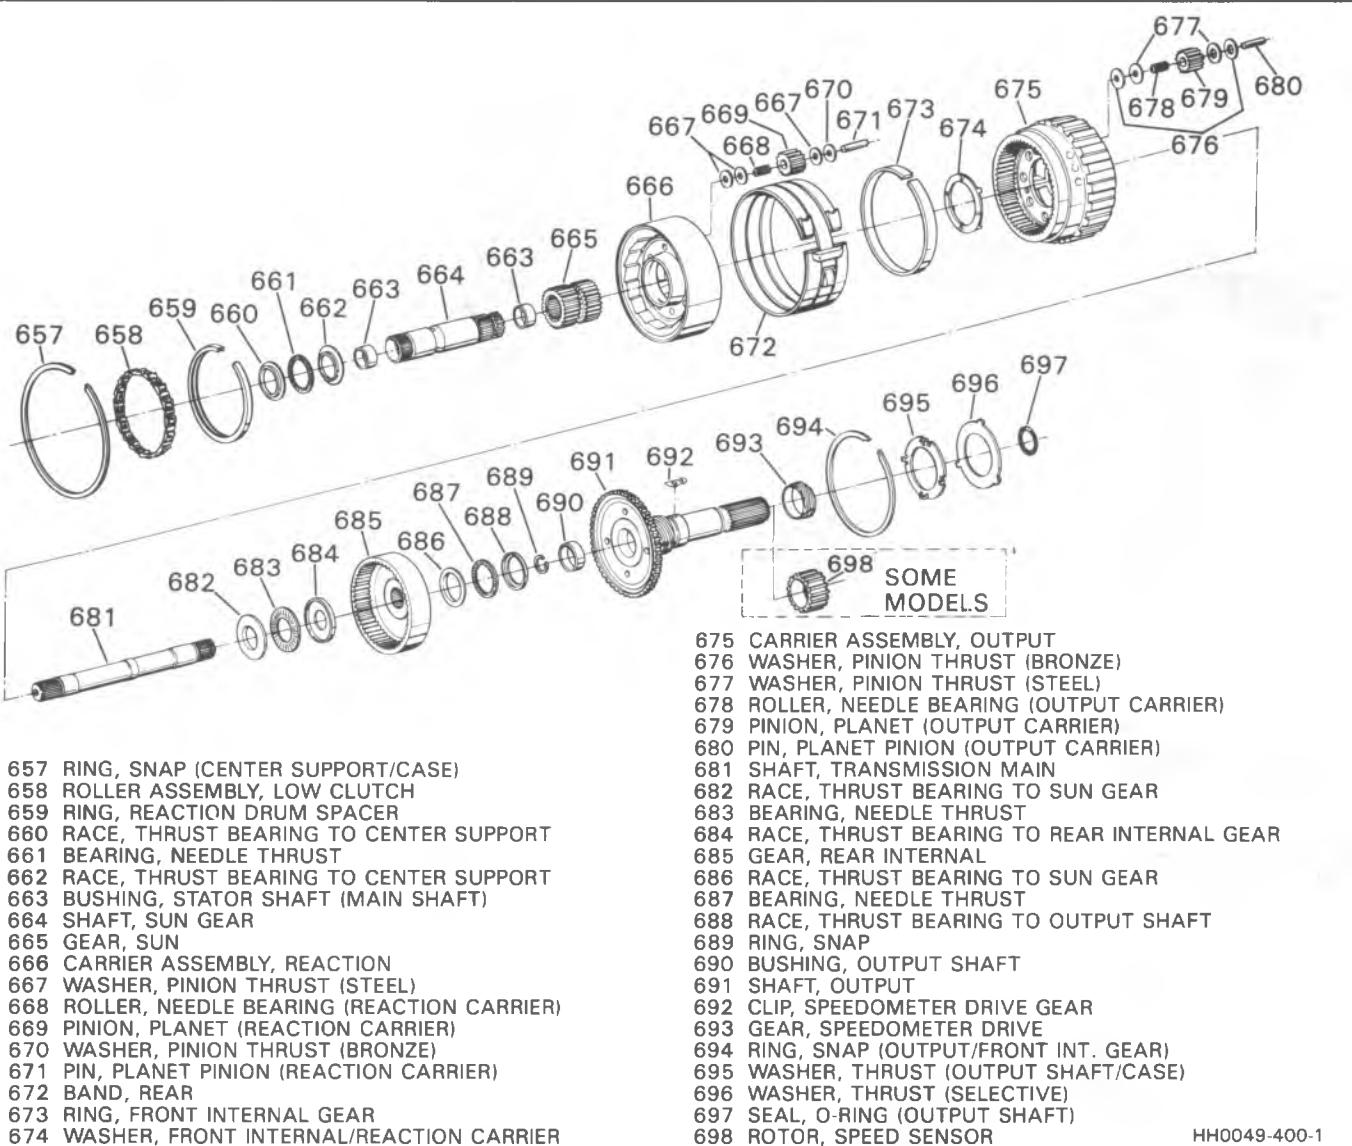

Figure 34 - Gear Unit Assembly
Gear Unit and Output Carrier Assemblies**Disassemble (Figure 34)**
1. Thrust bearing (661) and races (660, 662).
2. Reaction carrier (666).
3. Sun gear (665), thrust washer (674) and front internal gear ring (673).
4. Snap ring (694), output shaft (691) and O-ring (697).
5. Thrust bearing (683) and races (682 and 684) from rear internal gear (685).
6. Rear internal gear (685) and main shaft (681).
7. Snap ring (689) from main shaft (681).
8. Races (686 and 688) and bearing (687).
**Inspect (Figures 34 and 35)**
- Output shaft (691) for:
- Output shaft bushing (690) for:
- Speedometer drive gear (693) for:
- Main shaft (681) for:
(Figures 34 and 36)